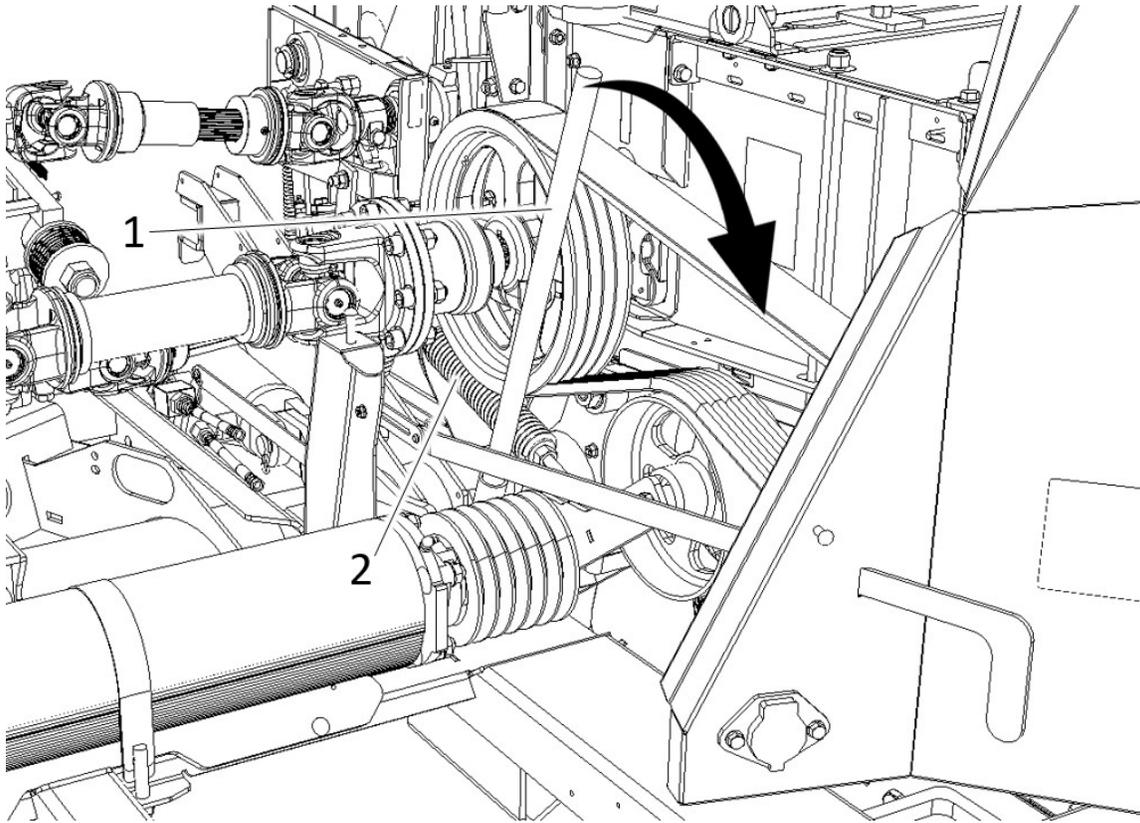

Figure 23 Accelerator tensioner
STEP 3 - FIGURE 23
Reinstall the accelerator belt and hook the spring back on (item 2). Use the knife guide bar (item 1) to reset the tension in the belts. (Reverse from Step 3 – Figure 23 Accelerator).